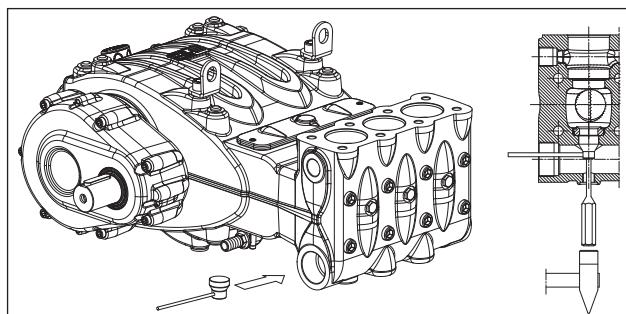

Fig. 104
If removing the suction valve insert proves to be particularly difficult (for example because of incrustations due to prolonged inactivity of the pump), use the extractor tool code 27516200 (pos. ①, Fig. 104) and proceed as instructed.